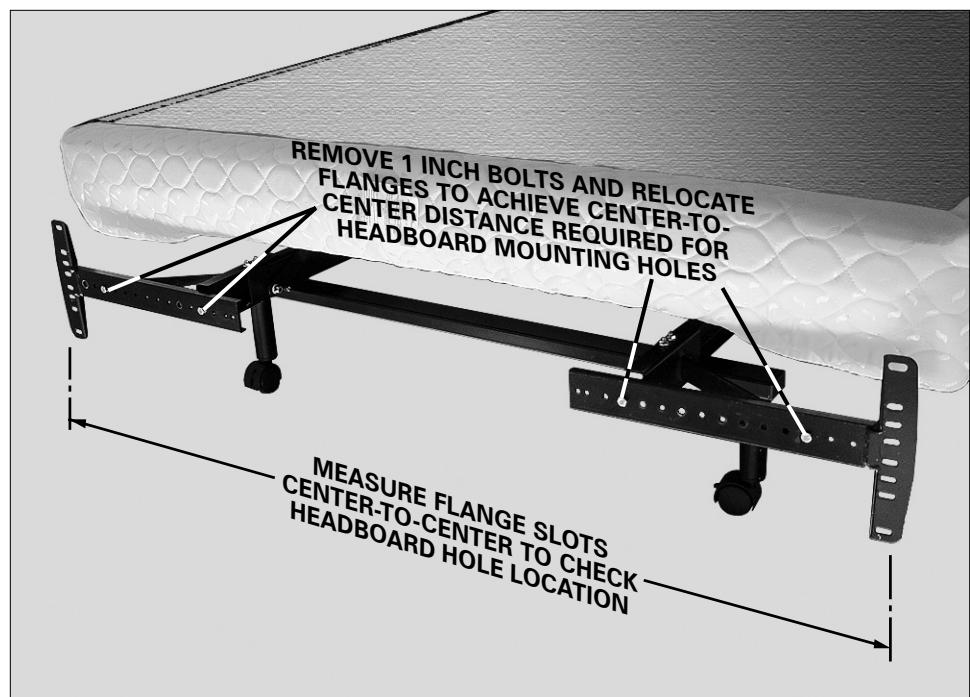

FIGURE 12: Headboard bracket measurement and adjustment to accept headboard.
- g. Measure the center-to-center distance between the mounting slots of the headboard bracket flanges (FIGURE 12).
- h. If bracket flange adjustment is required to accept the headboard, remove the 1 inch headboard bracket flange bolts and move flanges side-to-side for the adjustment (FIGURE 12). Reinstall bolts and tighten.